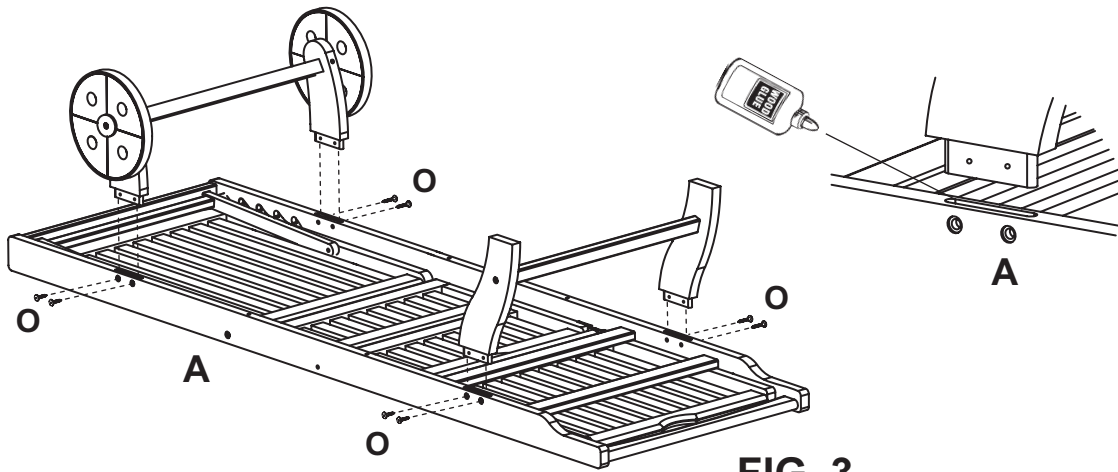

FIG. 3
- 3) Spread glue evenly in the elongated holes in the bottom of the Bench (A). Insert the back leg assembly in the holes of the end of the bench with the fold up back. Insert the front leg assembly in the other holes. Fasten each leg in place with two 6 x 20mm Hex Screw (O) through the predrilled holes in the bench. See FIGURE 3.